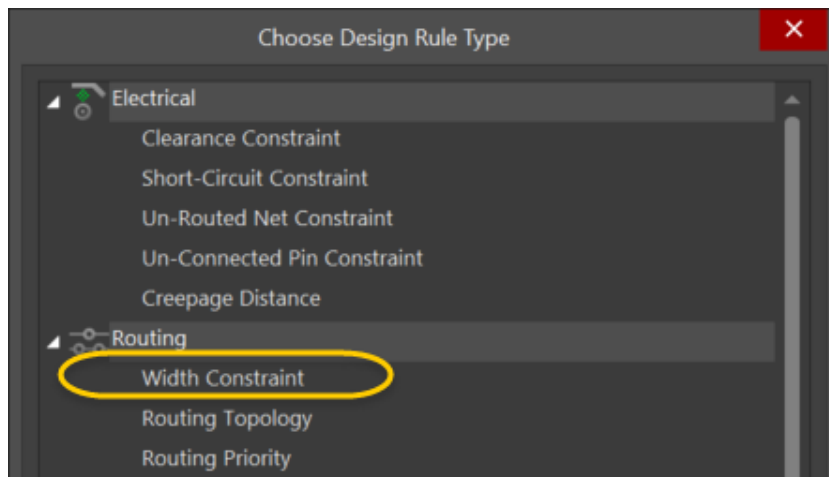

Figure 8. Width Constraint Rule
- d) Select the *Width Constraint* rule from within the *Routing* section shown in Figure 8 below.